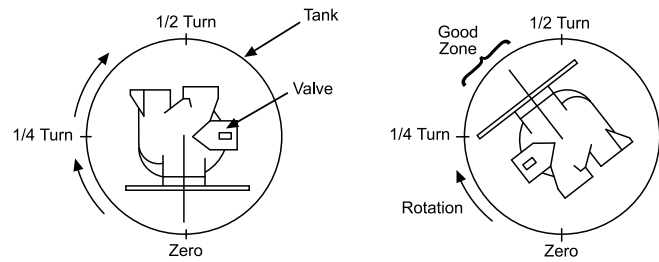

Figure 6
- Rotate the valve clockwise from zero, between 1/4-turn and 1/2-turn (see "Figure 6").